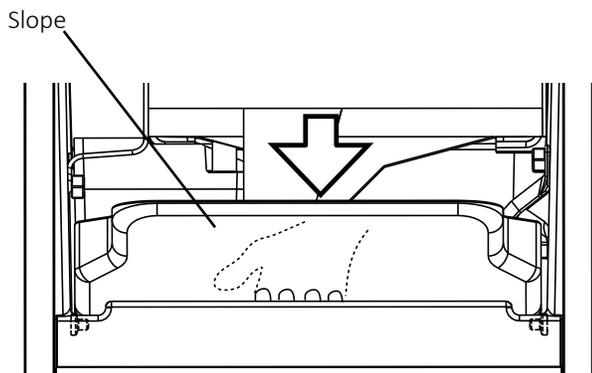

Fig. 39
17. Replace the slope in its correct position. See Fig. 39.